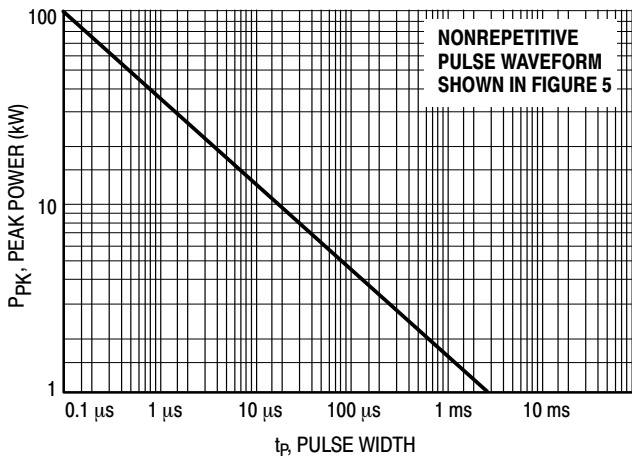

Figure 1. Pulse Rating Curve
- Surge current waveform per Figure 5 and derate per Figures 1 and 2.
The data of Figure 1 applies for non-repetitive conditions and at a lead temperature of 25°C. If the duty cycle increases, the peak power must be reduced as indicated by the curves of Figure 7. Average power must be derated as the lead or ambient temperature rises above 25°C. The average power derating curve normally given on data sheets may be normalized and used for this purpose.
At first glance the derating curves of Figure 7 appear to be in error as the 10 ms pulse has a higher derating factor than the 10 μs pulse. However, when the derating factor for a given pulse of Figure 7 is multiplied by the peak power value of Figure 1 for the same pulse, the results follow the expected trend.